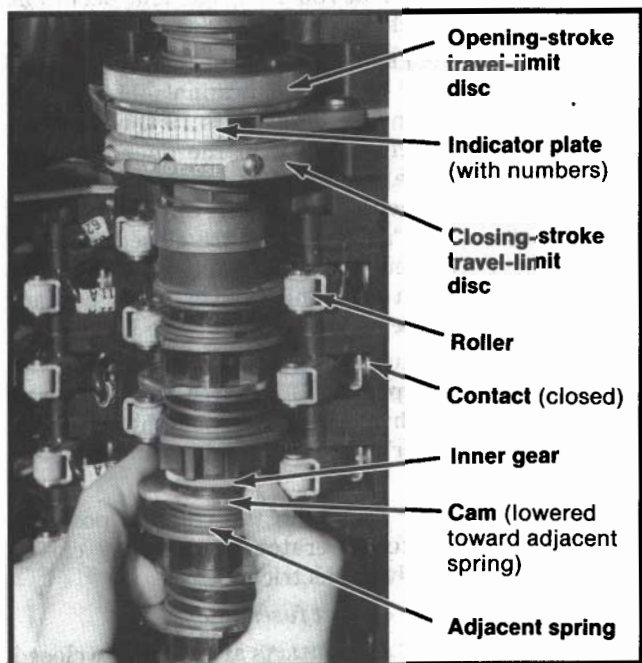

Figure 6. Adjustment of cams on auxiliary switch.
Any auxiliary-switch contact being used must be checked for proper operation for both open and closed positions of the switch operator. To adjust the auxiliary-switch contacts, refer to Figures 6 and 7 and proceed as follows:
Any suffix “-W” or “-Z” auxiliary-switch contact being used must be checked for proper operation after satisfactory electrical operation of the Circuit-Switcher has been achieved. Check the auxiliary-switch contact engagement for both the open and closed positions of the Circuit-Switcher. Adjustment of the suffix “-W” or “-Z” extra auxiliary switch is identical to the adjustment performed for the auxiliary switch and the suffix “-Q” extra auxiliary switch. Therefore, if adjustment of the suffix “-W” or “-Z” auxiliary switch is needed, refer to Step 11 and Figures 6 and 7.
10. Finally, to check the functioning of the brake, decouple the operator and then open and close the operator electrically. After each operation, check the position of the indicator on the appropriate travel-limit disc: it should stop between indicator-plate numbers 2 and 8. See Figure 6. Should the indicator on the travel-limit disc stop outside this range, refer to the nearest S&C Sales Office.